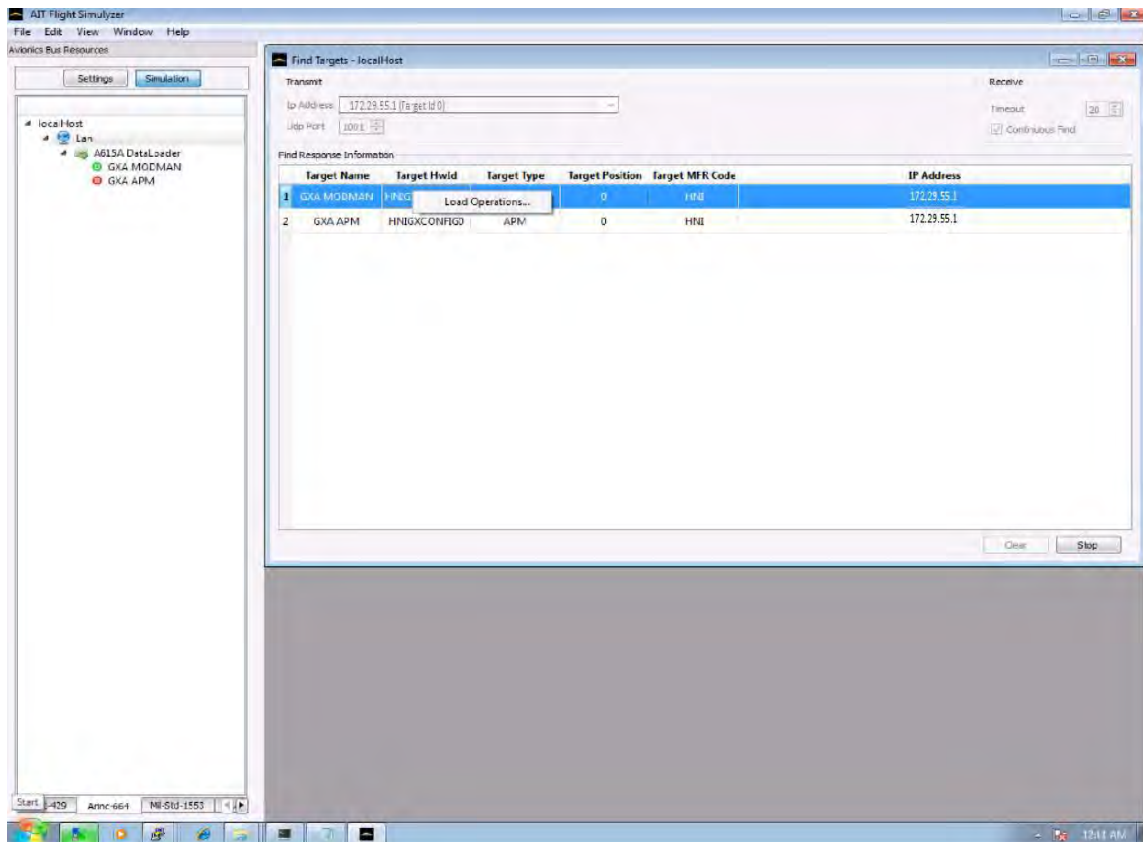

Figure 3-4. AIT F-SIM-LDR ARINC 615A Find Dialog Box
- (a) The ARINC 615A FIND operation is used to identify available loadable target systems. The loadable targets responding to the FIND request will be shown after the timeout on the data loader, indicating target identification and source address (IP) information. Figure 3-4 shows the screen shot of AIT F-SIM-LDR ARINC 615A FIND dialog box.